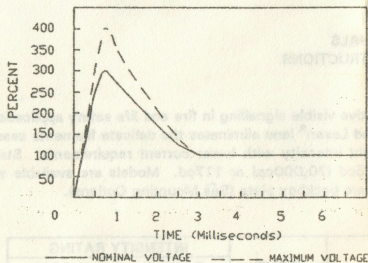

FIGURE 1.
7. DC strobes have a brief inrush current during initial start-up. Refer to Figure 1 for peak inrush current waveform. Circuit fuses must be rated to handle this inrush. Inrush current limitation will not prevent start-up. Power supply ratings can be based on the rated (steady state) current of the strobes. Refer to Figure 2 for steady state current waveform.